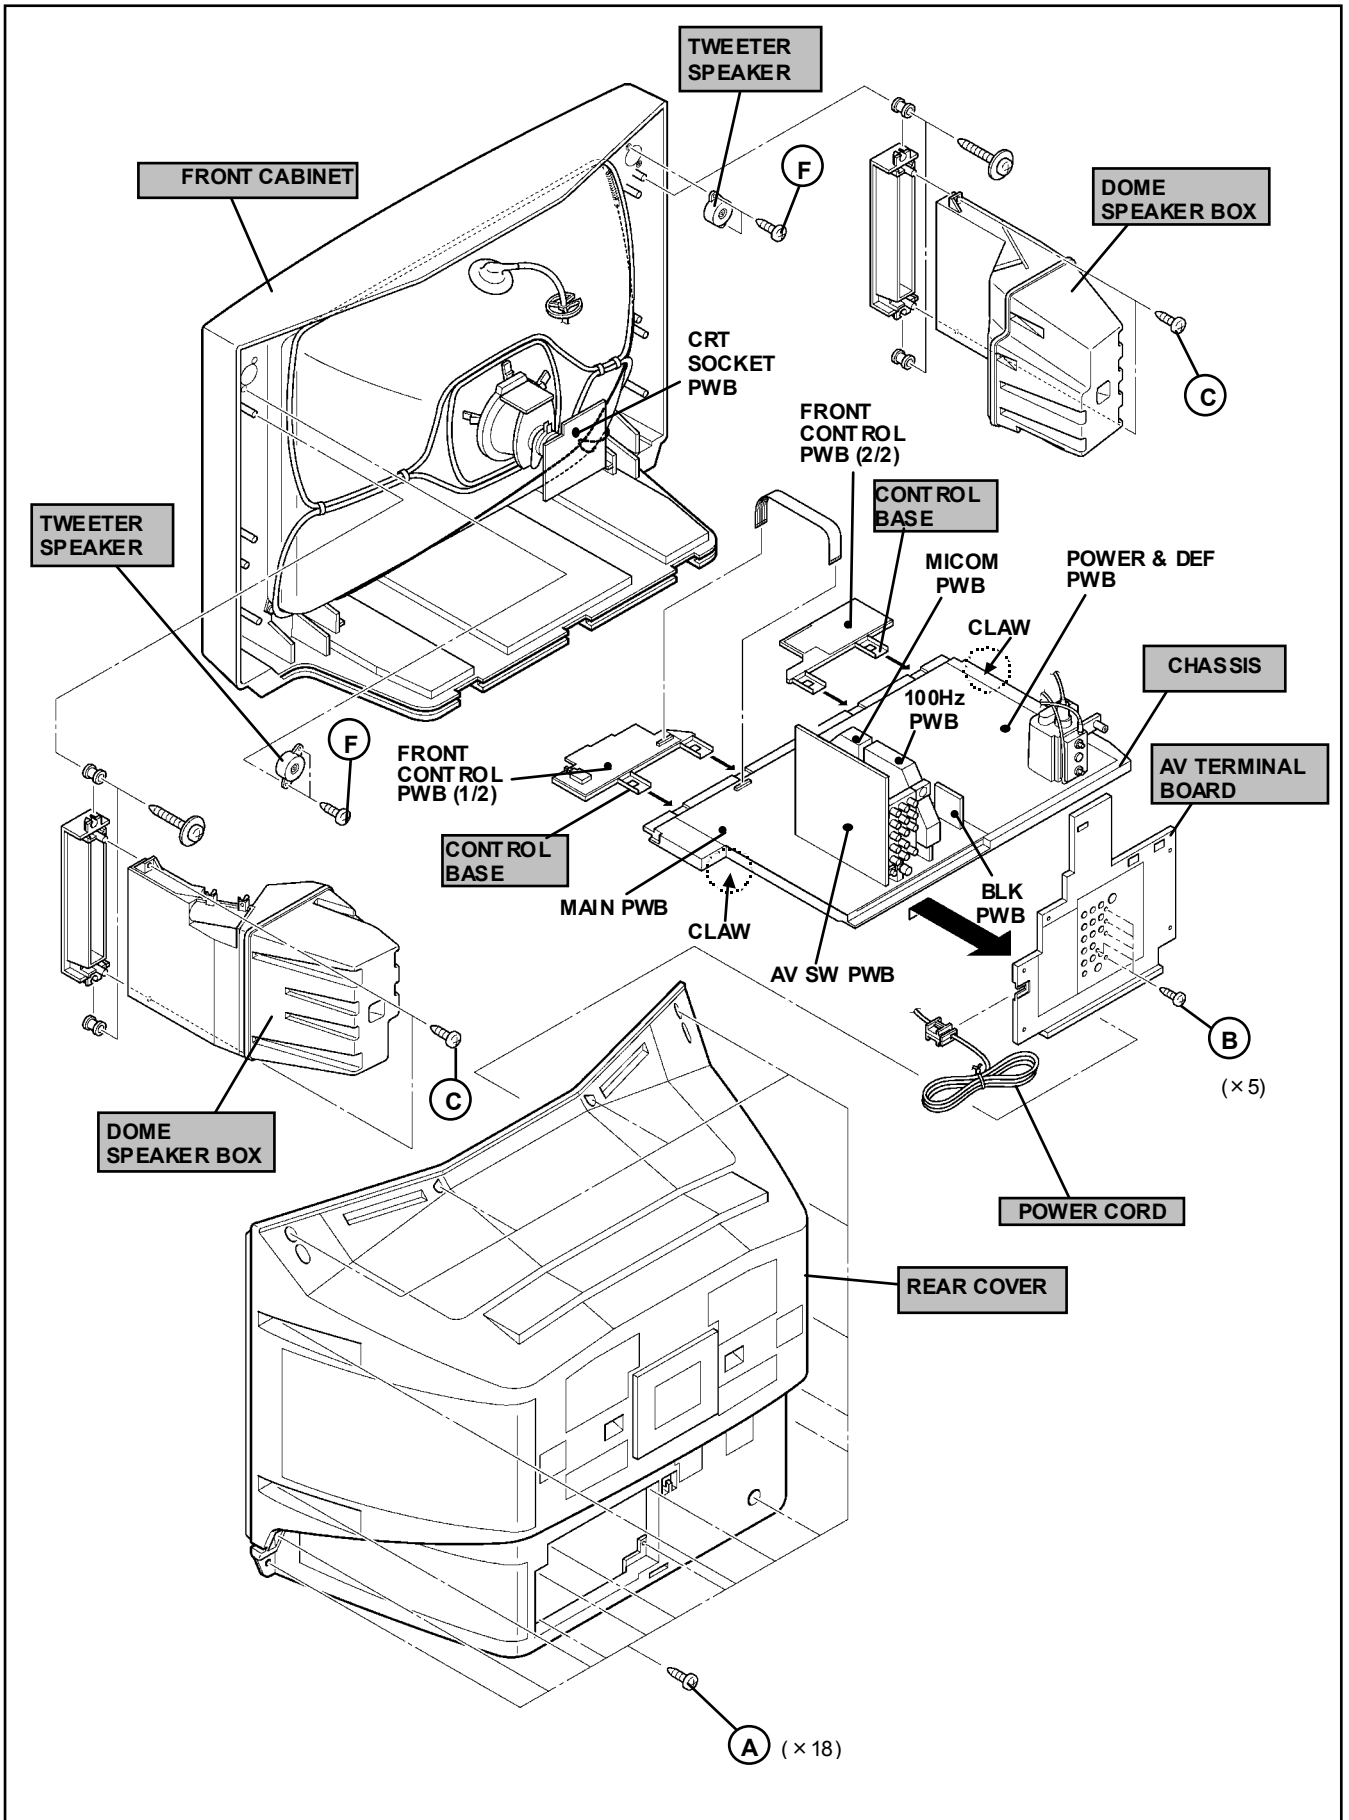

Fig. 1
1. As shown in Fig. 1, remove the 2 screws marked (F), then pull out the tweeter speaker to remove it.